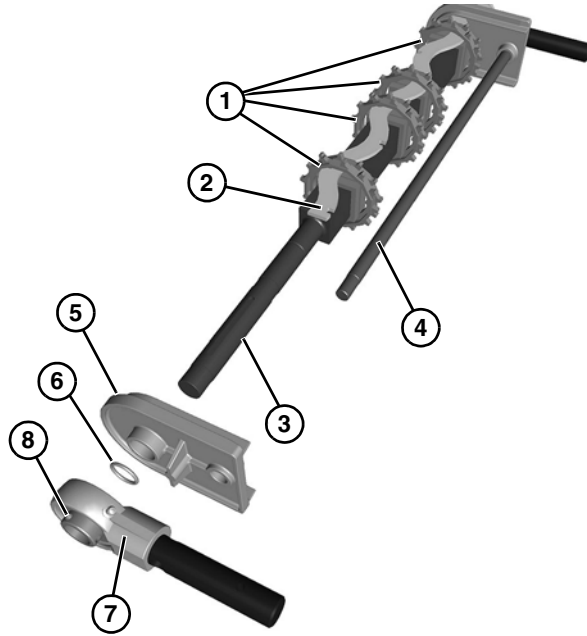

Figure 70
1. Assemble sprockets (Figure 70, item 1) to the slots of alignment bar (Figure 70, item 2), and install assembly onto drive spindle (Figure 70, item 3).
2. Install pinch guard shaft (Figure 70, item 4).
3. Slide the tracking plate (Figure 70, item 5) onto the drive spindle and pinch guard shaft.
When installing tracking plate, be certain O-ring (Figure 70, item 6) is installed.
4. Slide the shaft assembly (Figure 70, item 7) onto the drive spindle and tighten set screws (Figure 70, item 8) on bearing.